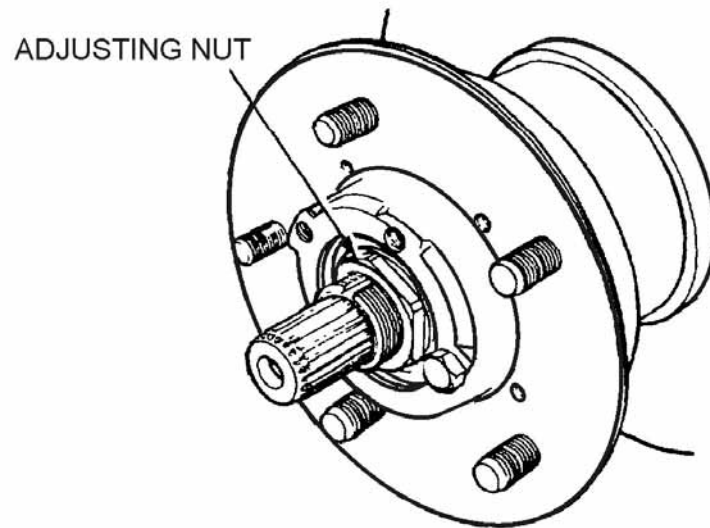

Figure 5 Hub Bearing Adjustment
- g. Tighten the nut (Figure 5) by hand until there is no end float.